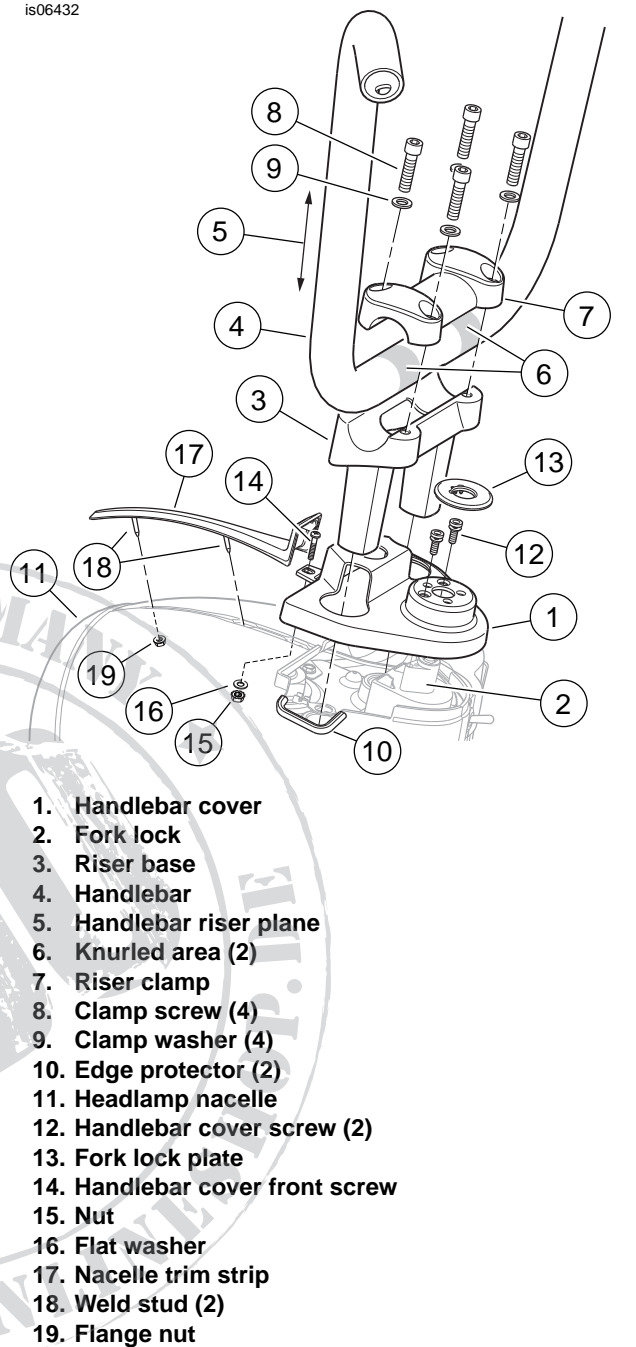

Figure 8. FLHR Ape Handlebar Riser Configuration
- b. **Road King models:** See Figure 8. Place the handlebar cover (1), oriented as shown, over the fork lock (2).
- c. Insert the riser base (3) legs through the holes in the handlebar cover, and fasten the riser with the mounting bolts removed earlier. Do not fully tighten at this time.
2. See Figure 8. To avoid possible damage to the brake line, verify that the edge protectors (10) remain installed on the
4. See Figure 8. Fasten the **new** handlebar cover (1) to the fork lock (2) mechanism.
**For North America:** use the two **flat head** screws (12) removed earlier. Tighten the flat head screws to **10-20 in-lbs** (1.1-2.3 Nm).
**For Australia, Brazil, England, Europe and Japan:** use two **new** special screws (H-D Part No. 2935A, purchased separately). Tighten the screws (12) until the break-away heads snap off.
5. Press the original fork lock plate (13) into position on the handlebar cover.
6. Insert the screw (14, removed earlier) through the hole at the front of the handlebar cover and the top of the headlamp nacelle (11). Reach inside the nacelle and install the nut (15) and flat washer (16) onto the screw threads. Tighten the screw to **10-20 in-lbs** (1.1-2.3 Nm).
7. Insert the hook of the trim strip (17) into the slot on the handlebar cover. Insert the weld studs (18) on the trim strip into the holes at the top of the headlamp nacelle, and reach inside the nacelle to install the flange nut (19). Tighten the nut to **15-20 in-lbs** (1.7-2.3 Nm).